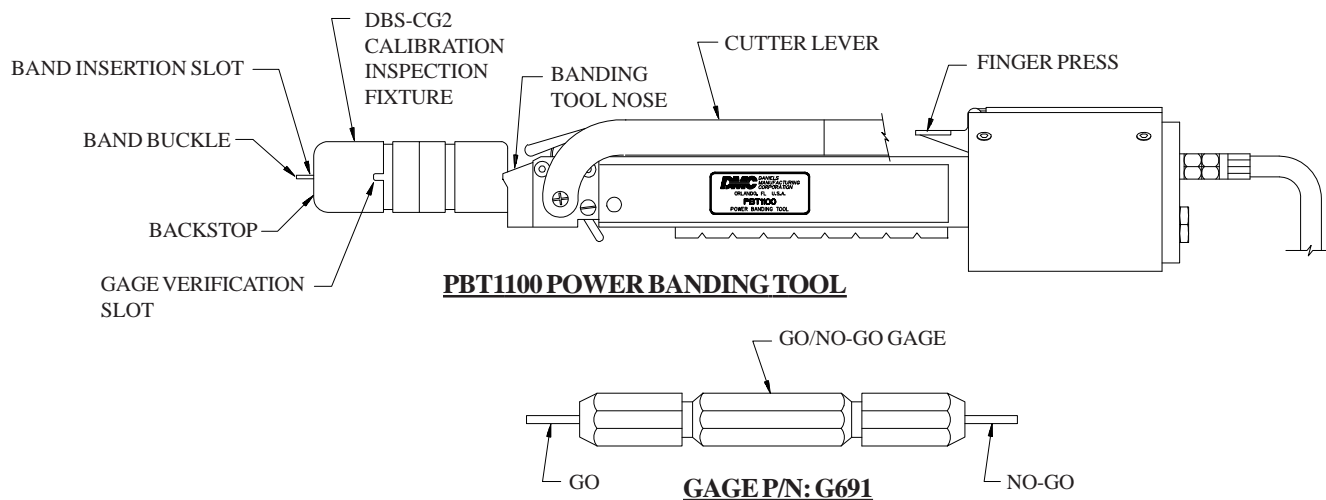

FIGURE 4
- 2.1.1 Place the calibration inspection fixture (DBS-CG2) and the power banding tool (PBT1100) so that they may be oriented as shown in Figure 4.